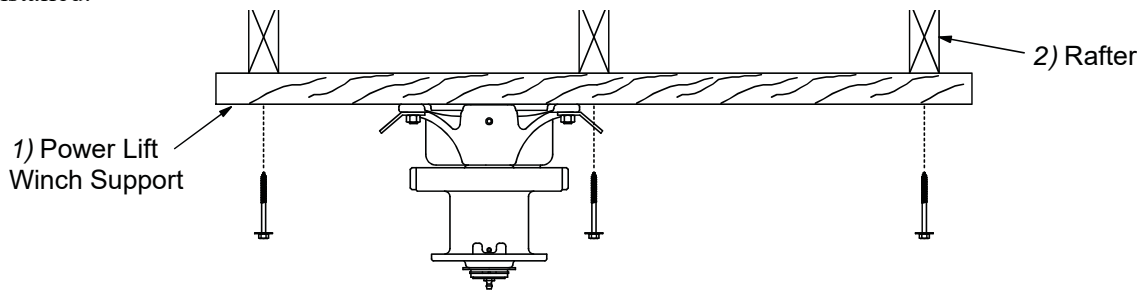

Figure 12. Mounting the Power Lift Winch and Support to the rafters
2. Attach the power lift winch support (with the winch secured) to the ceiling at the center of the feeder line, see **Figure 12**. The winch support must be parallel to the feeder line and must span at least three (3) rafters in a wood frame house and two (2) rafters in a steel frame house.